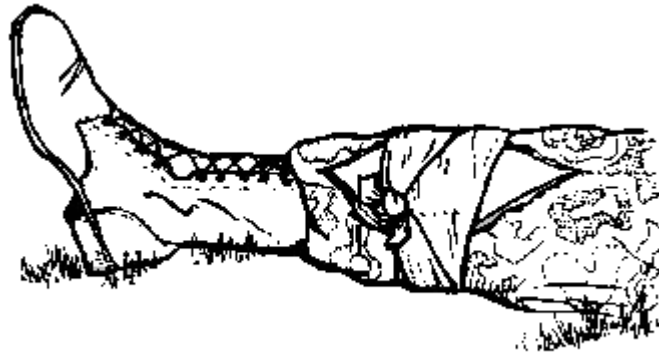

Figure 2-32. Tails tied into nonslip knot.
e. Tie the tails into a nonslip knot over the outer edge of the dressing (Figure 2-32). **DO NOT TIE THE KNOT OVER THE WOUND.** In order to allow blood to flow to the rest of an injured limb, tie the dressing firmly enough to prevent it from slipping but without causing a tourniquet-like effect; that is, the skin beyond the injury becomes cool blue, or numb.